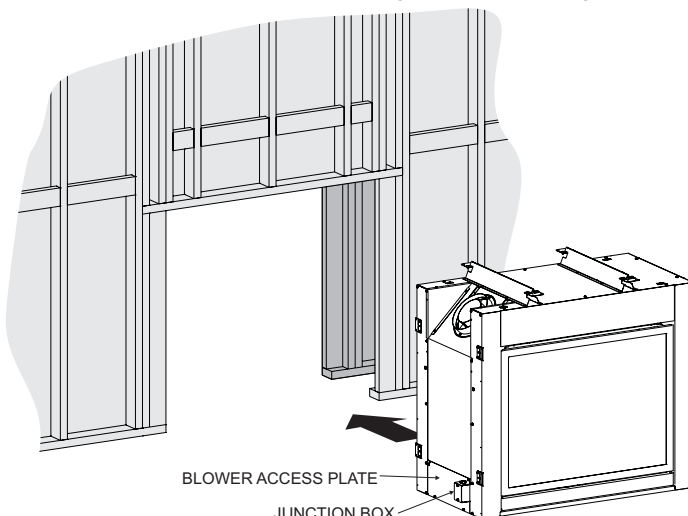

Figure 24
4. After the fireplace has been properly positioned inside the frame work, or the frame work has been built around the fireplace, the nailing flanges shall be bent 90 degrees and the fireplace should be attached to the frame work using 24 (SP) or 18 (PP) drywall screws. Temporarily remove blower access plate and tuck junction box inside fireplace before setting in place. **See Figure 24.**